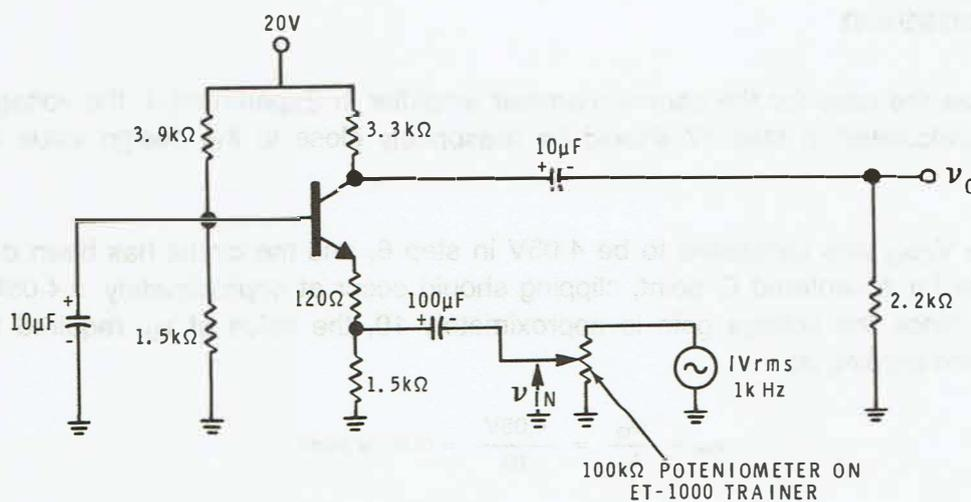

Figure E6-1
Figure E6-1 illustrates the circuit with standard value components.
13. With the power off, construct the circuit shown in Figure E6-1. Make sure you observe the proper polarity when you place the capacitors in the circuit.